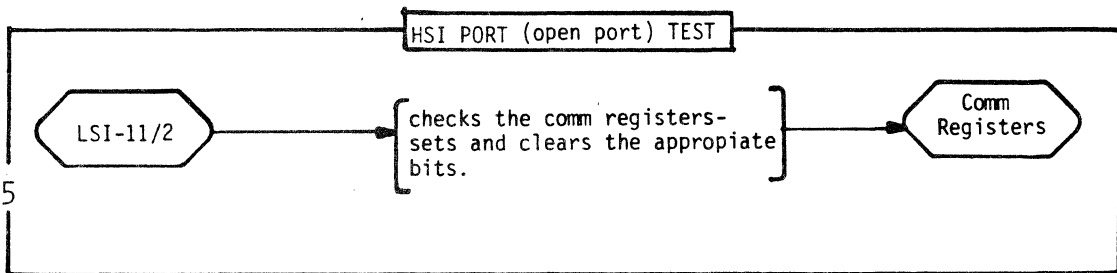

Fig. 4-21. Open port test.
5. OPEN PORT TEST (Fig. 4-21). The LSI-11/2 checks the appropriate communications register bit. The test sets and clears the proper bits thus certifying that the proper port function was accessed. Since this test does not read data from the port, its usefulness is limited.